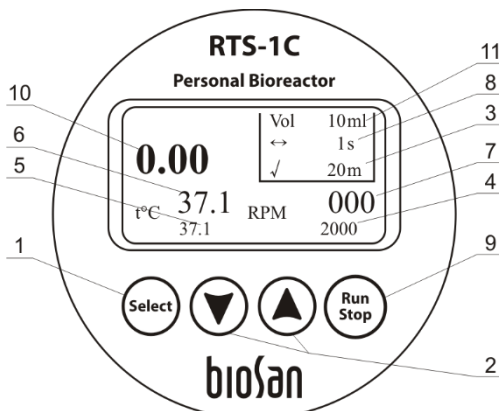
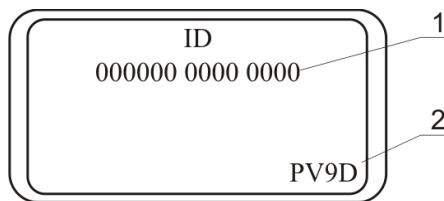

Fig. 2 Control panel
Fig. 3. ID and hardware version
- 4.1. **Checking hardware version.** To check the hardware version, press ▲ and ▼ keys (fig. 2/2) simultaneously. Display will show a new screen with a unique fourteen-digit unit ID (fig. 3/1) and the hardware version (fig. 3/2). Please refer to the number in the version for further calibration. Display will change back to the previous screen after 4 seconds.
- Set the volume parameter of the distilled water on the display (fig. 2/11);
- Press **Run Stop** key (fig. 2/9) (the device will start the OD measurement cycle by accelerating to 2000 rpm);
5.5.1. Press the **Select** key (fig. 2/1) to choose a parameter that you want to change (the active parameter is blinking).
5.5.2. Use ▲ and ▼ keys (fig. 2/2) to set the necessary value (if the key is pressed for more than 2 seconds the parameter should change quicker).
5.5.3. It is possible to set time between optical density measurements (fig. 2/3), spinning speed (fig. 2/4), temperature (fig. 2/5), time between Reverse Spins (fig. 2/8), operating volume (fig. 2/11). Actual values of the temperature and speed are displayed on the display (fig. 2/6 and fig. 2/7).
5.5.4. Press the **Run Stop** key (fig. 2/9) to start and stop operation.
5.5.5. Press the **Run Stop** key (fig. 2/9) to stop the operation.
Operation stop will not stop the heating process. To stop heating process set temperature has to be decreased manually until "off" indication appears (fig. 2/5).